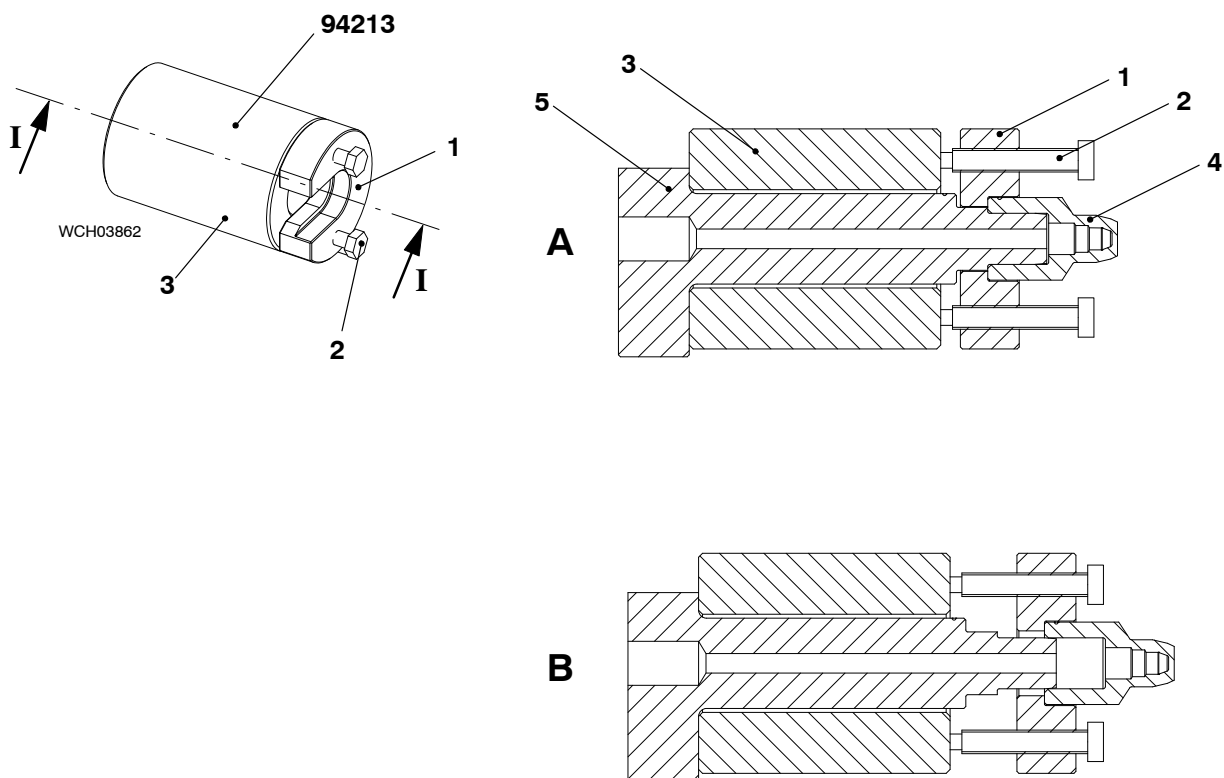

Fig. 2
- 1) Remove the two bolts (2, Fig. 2) and the plate (1) from the distance sleeve (3).
- 2) Put the distance sleeve (3) on the lubricating quill (5).
- 3) Attach the plate (1) to the nozzle tip (4).
- 4) Engage the collar on the plate with the recess on the lubricating quill (5).
- 5) Turn equally the two bolts (2) to remove the nozzle tip (4) from the holder (5).
- 6) Remove the distance sleeve (3).
- 7) Attach a new nozzle tip (4) to the holder (5).
- 8) Make sure that the nozzle tip (4) is correctly attached to the holder (5).